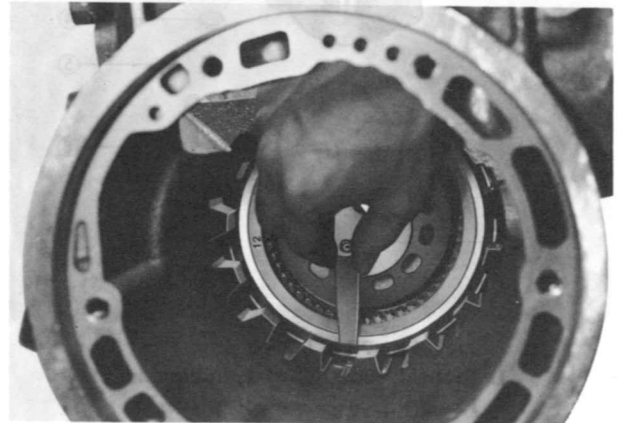

Fig. 7B-31 Measuring clearance
5. Check the operation of the low and reverse brake by blowing air into the oil hole as shown in Fig. 7B-29.